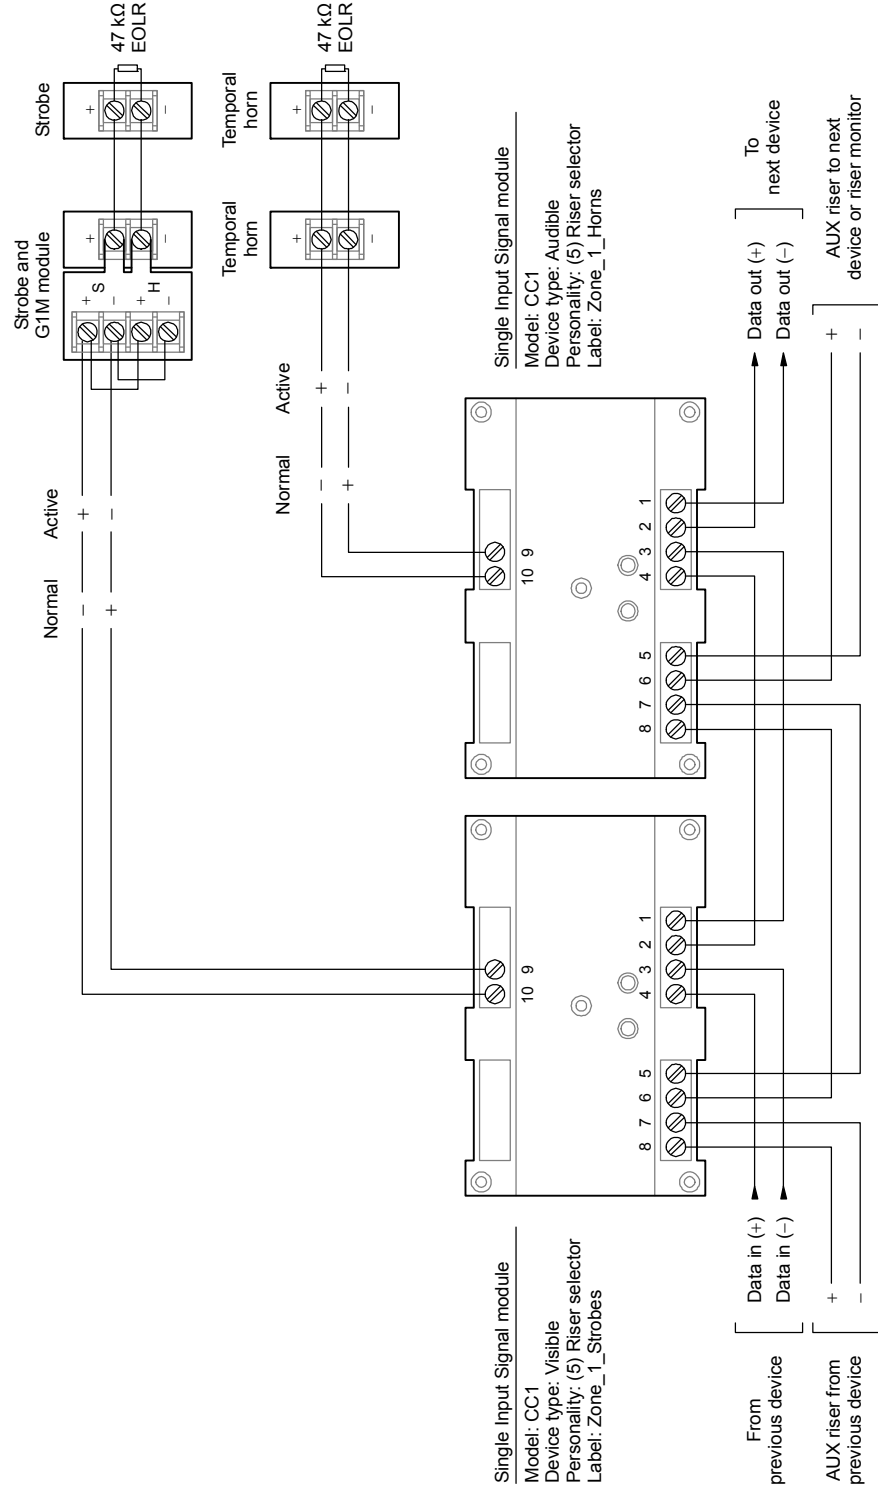
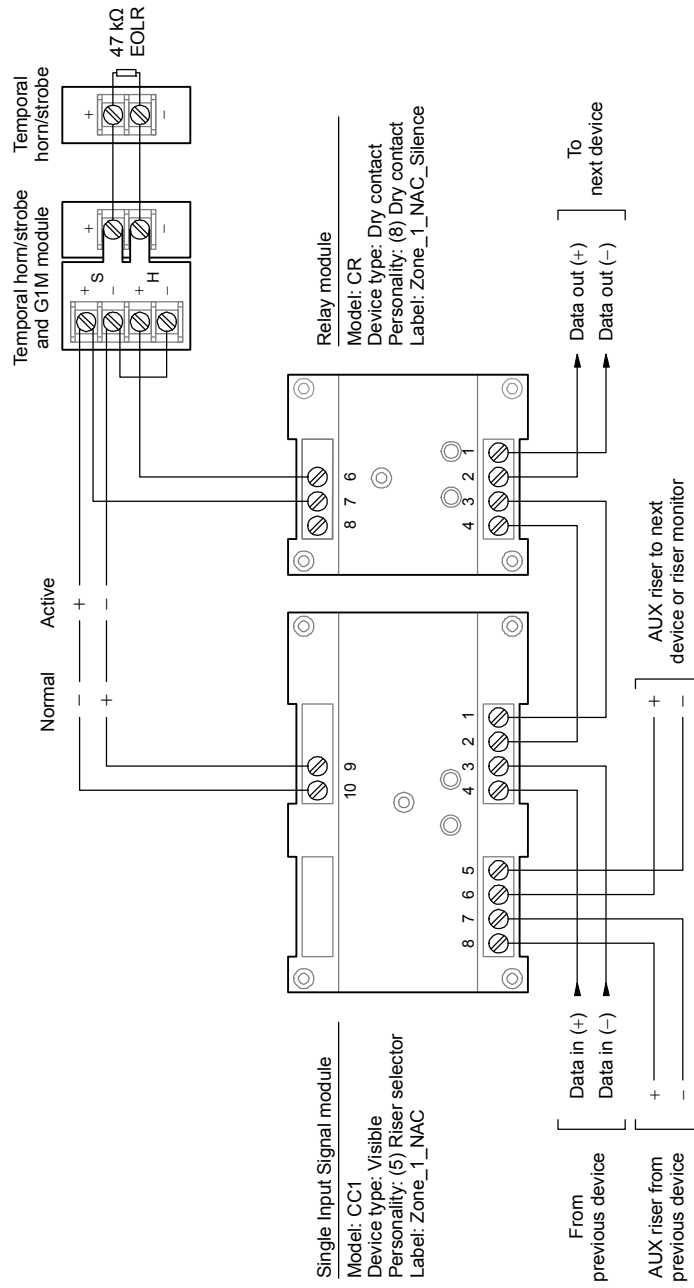

Figure 29: Typical SIGA-CC1 NAC wiring for separate appliance types
Figure 30: Typical SIGA-CC1 NAC wiring for horn/strobe appliance types
Signature data circuit (SDC) on the MIR2-MCM(N) module and the MIR2-LCX card	<p>Signals are synchronized for a NAC on the Signature data circuit when you use SIGA-CC1 and SIGA-MCC1 addressable NAC modules, a Genesis Signal Master synchronization module, and Genesis or Enhanced Integrity notification appliances. [1]</p> <p>Separate NACs on the Signature data circuit are not synchronized. See Figure 29 and Figure 30.</p> <p>Configure the audible notification appliances for temporal or steady output as desired.</p>
Figure 29 Shows two NACs on a Signature data circuit. Each NAC is controlled by a SIGA-CC1 module, one for audible appliances, and one for visible appliances. A separate AUX riser must be used for each NAC.
Figure 30 shows a single SIGA-CC1 switching an NAC on or off. The G1M module provides signal synchronization for the temporal horn/strobe appliances. A separate AUX riser must be used for each NAC.